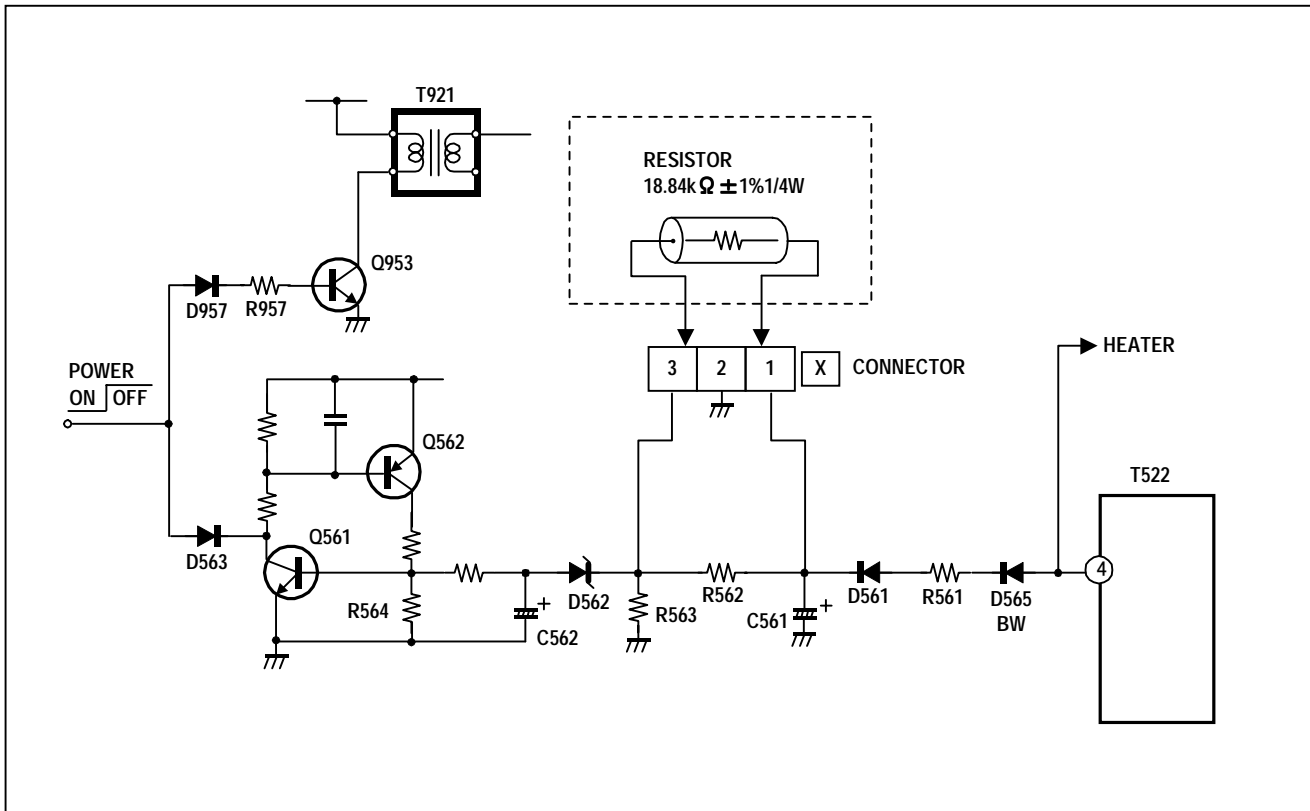

Fig. 1
After repairing the high voltage hold down circuit shown in Fig. 1.
- (1) Turn the power switch to on.
- (2) As shown in Fig. 1, set the resistor between [X] connector [1] and [3] .
- (3) Make sure that the screen picture disappears.
- (4) Temporarily unplug the power plug.
- (5) Remove the resistor replaced [X] connector [1] and [3] .
- (6) Again plug the power plug, make sure that the normal picture is displayed on the screen.